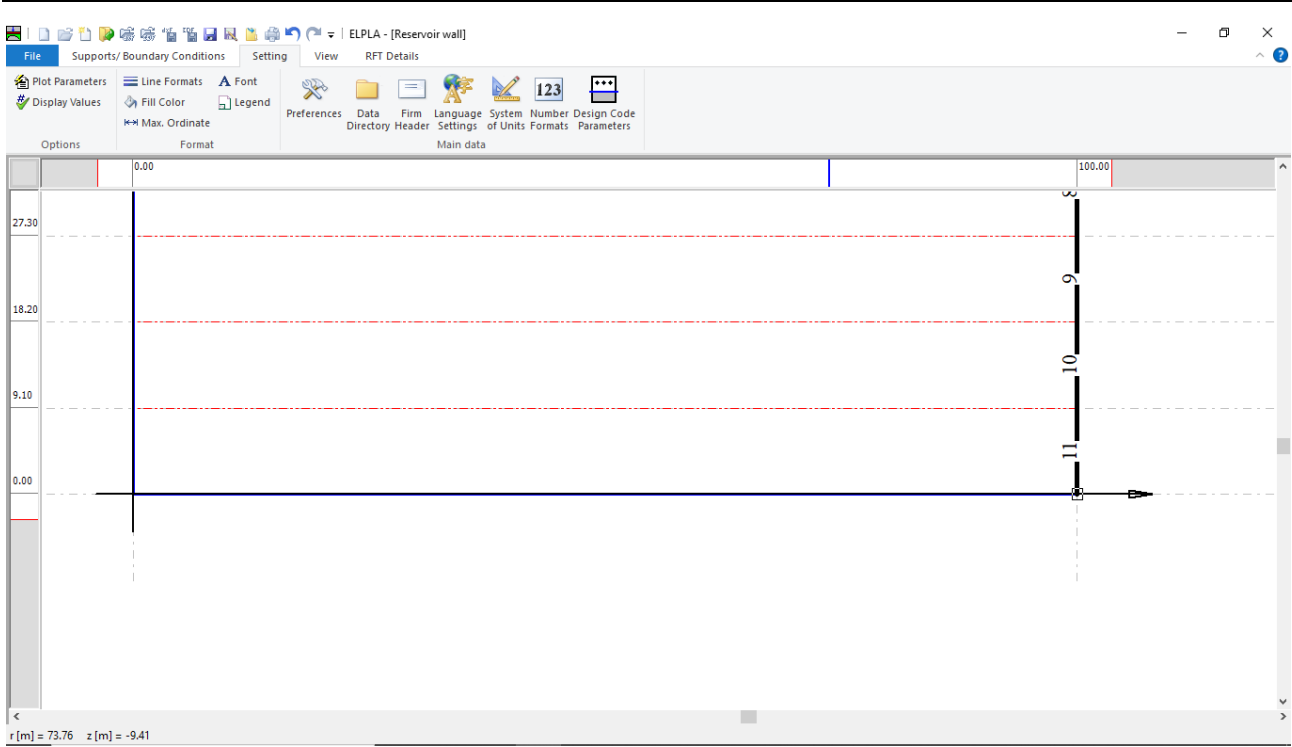

Figure 4.17 Selection of node that has a fixed support
- Click the left mouse button on the node that has the fixed support as shown in Figure 4.17